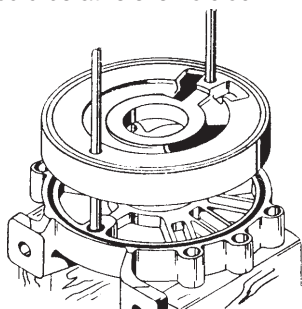

Figure 4-4
4. Place an "O" ring (#7B) into the groove in the face of the cover (#1B). Slide a left hand channel ring (#10B) onto the guide rods with the water channel facing up.(refer to figure 4-4) With the pump feet in the "six o'clock" position, the large inlet opening should be at "eleven o'clock".